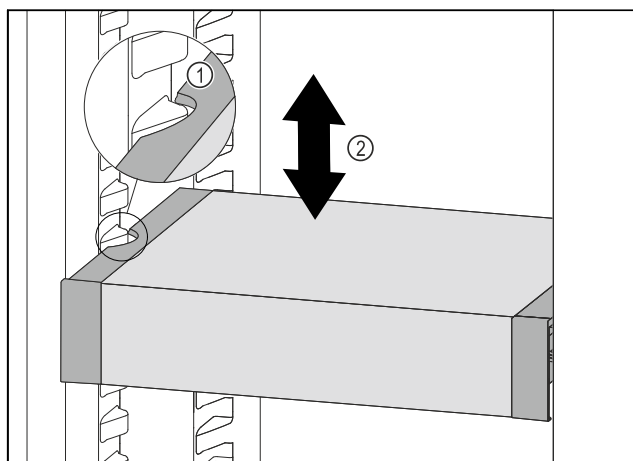

Fig. 211
- Pull VarioSafe forwards until the recesses in the side of the VarioSafe are at the level of the support rib in the refrigerator compartment. Fig. 211 (1)
- Move VarioSafe up or down in the refrigerator compartment until the desired height is reached. Fig. 211 (2)